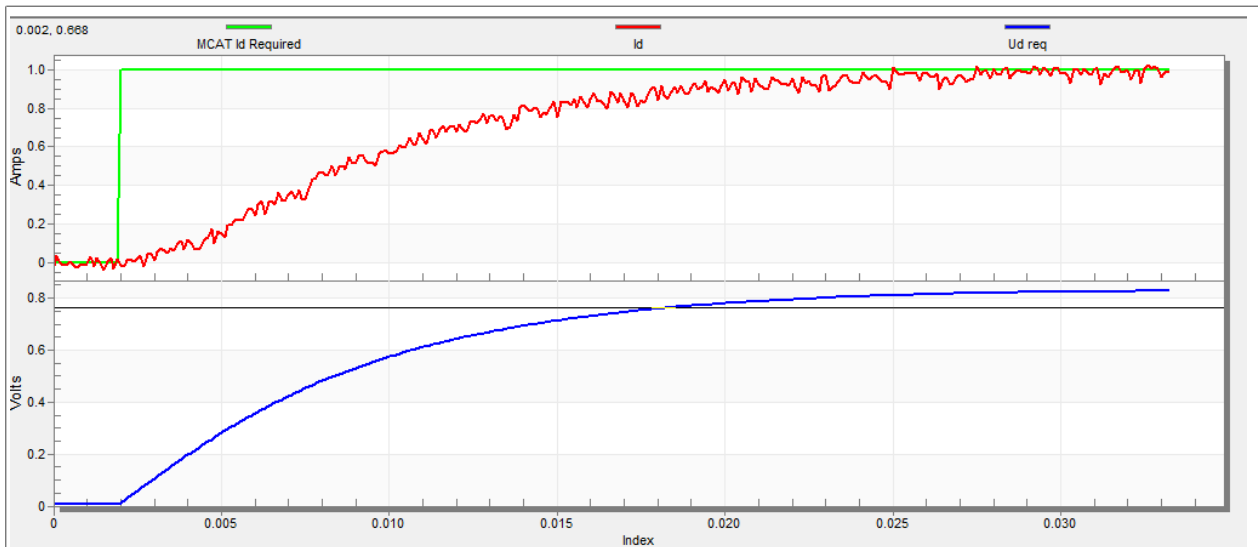

Figure 27. Slow step response of the Id current controller
- The loop bandwidth is low (110 Hz) and the settling time of the Id current is long (Figure 27).